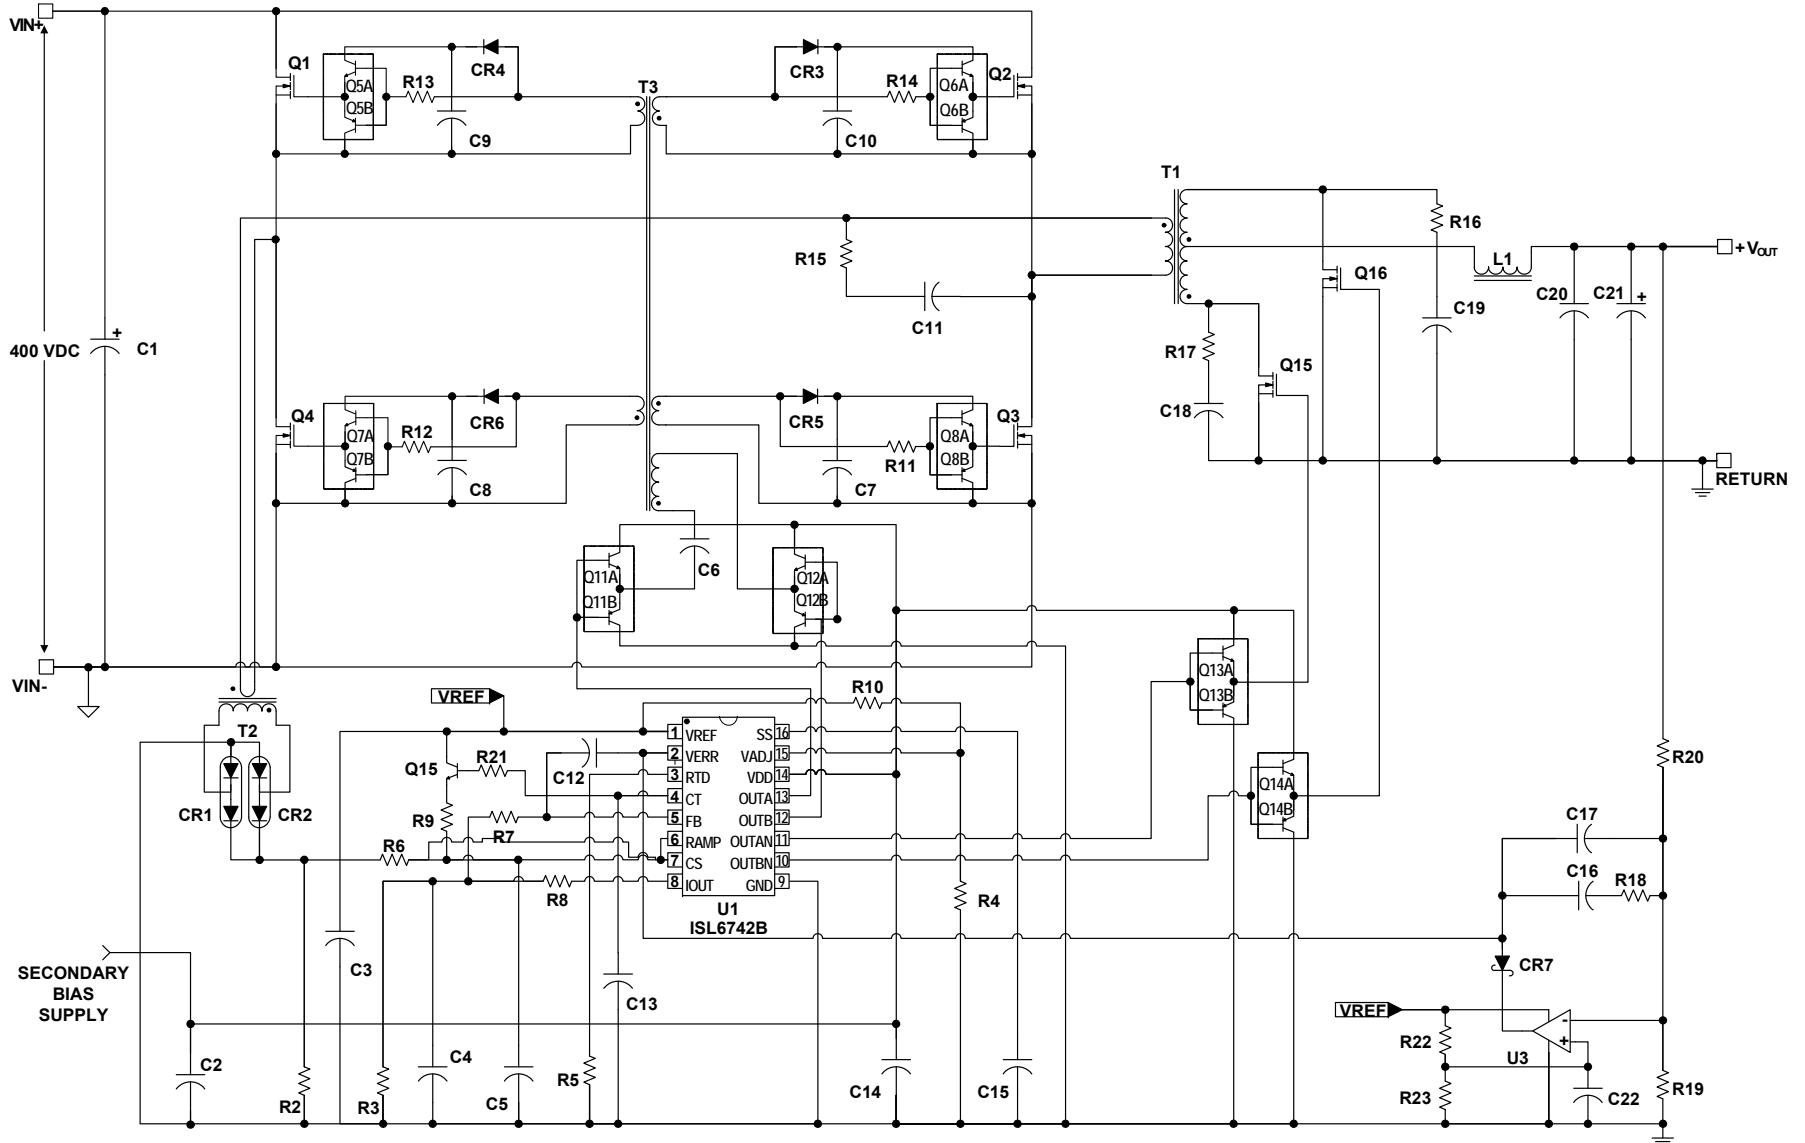

FIGURE 3. TYPICAL APPLICATION - HIGH VOLTAGE INPUT SECONDARY SIDE CONTROL FULL-BRIDGE CONVERTER
**Electrical Specifications** Recommended operating conditions unless otherwise noted. Refer to Figure 1 on page 5, Figure 2 on page 6 and Figure 3 on page 7.  $9V < V_{DD} < 16V$ ,  $RTD = 10.0k\Omega$ ,  $CT = 470pF$ ,  $T_A = -40^\circ C$  to  $+105^\circ C$ , Typical values are at  $T_A = +25^\circ C$ . **Boldface limits apply across the operating temperature range, -40°C to +105°C**
**Electrical Specifications** Recommended operating conditions unless otherwise noted. Refer to Figure 1 on page 5, Figure 2 on page 6 and Figure 3 on page 7.  $9V < VDD < 16V$ ,  $RTD = 10.0k\Omega$ ,  $CT = 470pF$ ,  $T_A = -40^\circ C$  to  $+105^\circ C$ , Typical values are at  $T_A = +25^\circ C$ . **Boldface limits apply across the operating temperature range,  $-40^\circ C$  to  $+105^\circ C$**  (Continued)